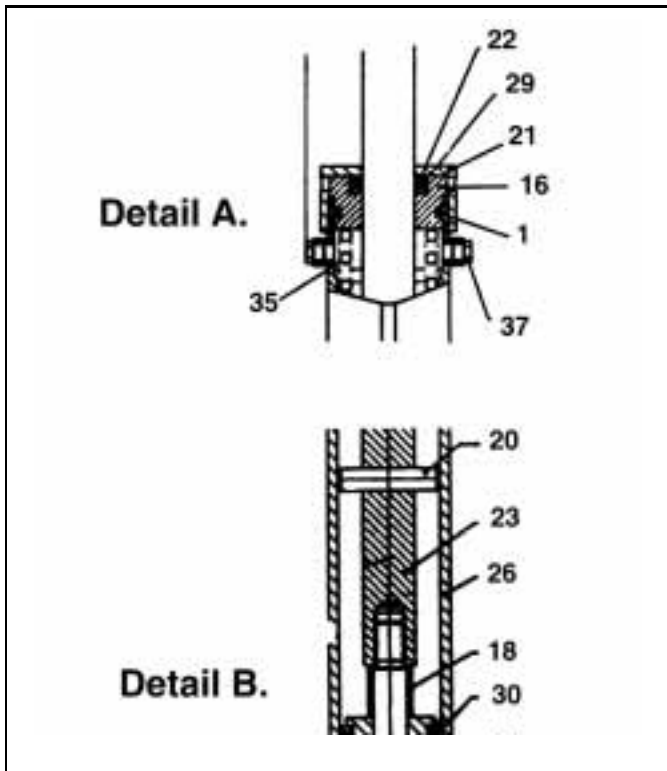

Fig. 2.
Every rod is supplied with a jaw for drum centring and clamping (See Detail C. Fig. 2.) that must be positioned manually; press it to the vertical rod to introduce and extract the drum.
- 4) Open the 'Air Bleed Valve' using Rod 'X' (See Fig. 2.). Lower the hoist using lever 'A' on the Control Panel. (See Fig. 3.) and allow the Pressure Piston to enter the drum; stop the lowering when the fluid contained in the drum begins to exit through the 'Air Bleed Valve'. Close the 'Air Bleed Valve'; move lever 'A' to the "down" position. The Pneumatic Pump is now in the correct operating